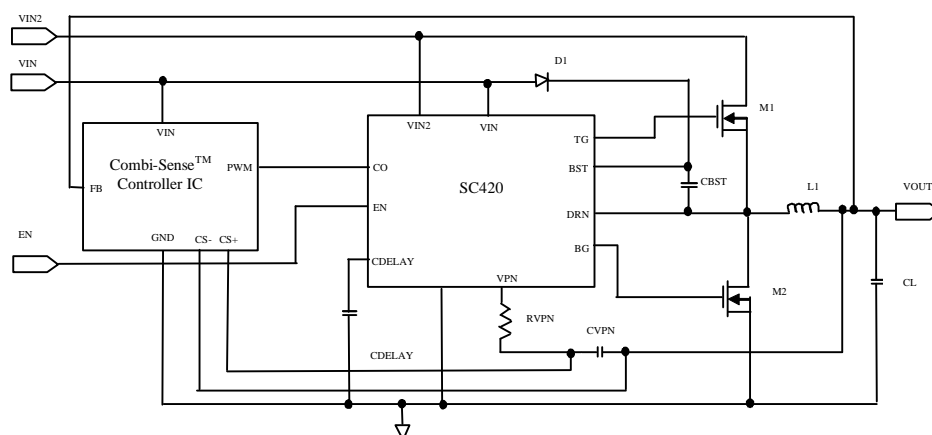

Figure 1
- (1) Performance when used according to manufacturing guidelines, refer to Applications Information section for more information
- (2) Specification refers to application circuit in Figure 1